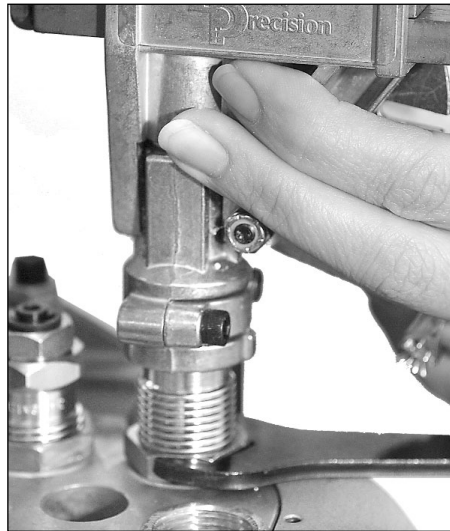

FIG 47
8. While holding the powder measure, snug the locking using a 1 1/8 wrench **FIG 47**. Now lower the platform.